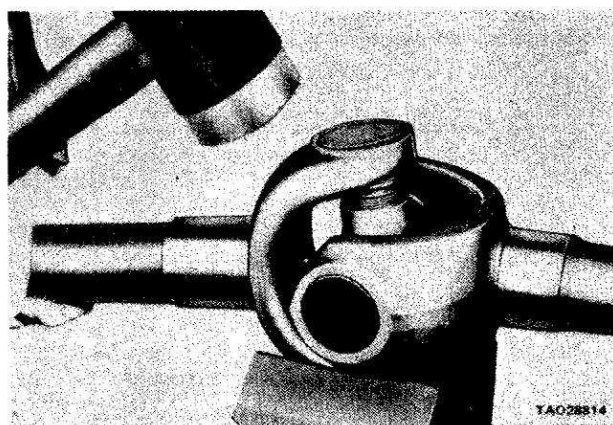

Figure 2-65. Removing Bearing Cups.
(1) Remove the snap rings from the two ears in each yoke.
(2) Position the joint assembly in an open vise with one yoke horizontal and resting on top of the vise jaws (figure 2-65). Do not tighten the vise.